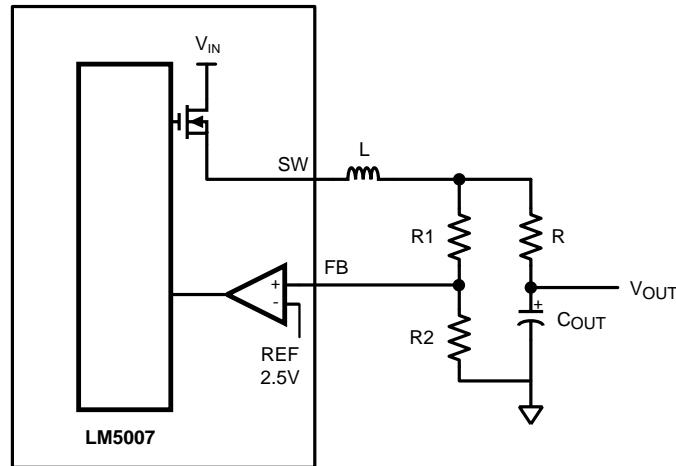

Figure 2. Low Ripple Output Configuration
The output voltage (V_{out}) can be programmed by two external resistors as shown in Figure 2. The regulation point can be calculated as follows:
For applications where lower output voltage ripple is required the load can be connected directly to the low ESR output capacitor, as shown in Figure 2. The series resistor (R) will degrade the load regulation. Another technique for enhancing the ripple voltage at the FB pin is to place a capacitor in parallel with the feedback divider resistor R1. The addition of the capacitor reduces the attenuation of the ripple voltage from the feedback divider